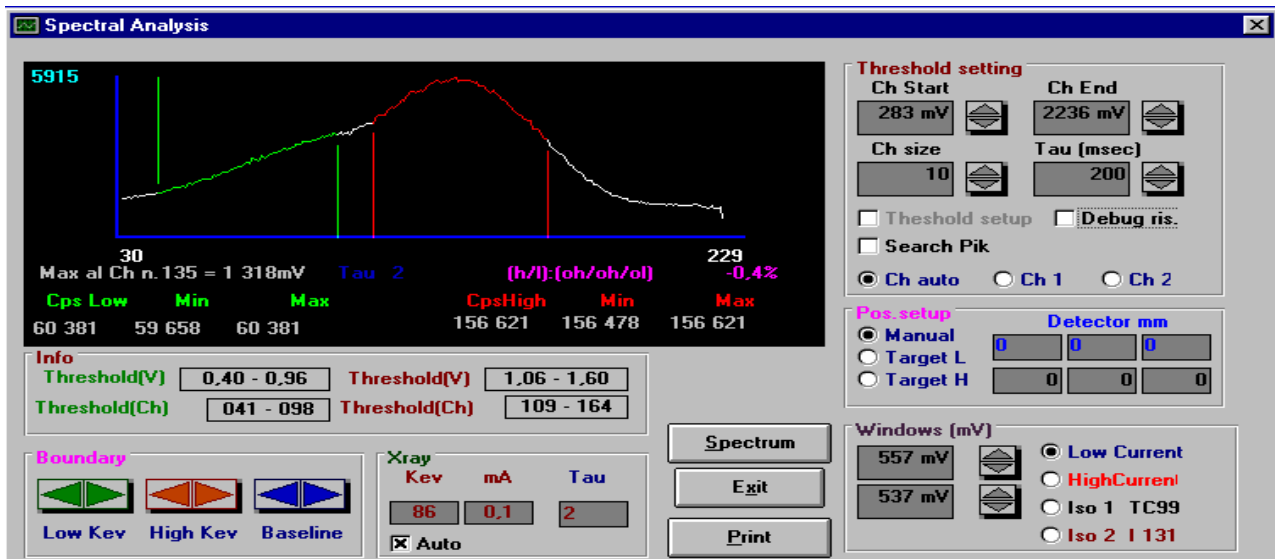

Figure II-1 : Spectral Analysis Window
- Modify the values “Threshold (V)” in the “Info” window to obtain those given in Figure II-1 (0.40 – 0.96 / 1.06 – 1.60).
- Click on [Spectrum] to obtain the curve as in Figure II-1 again.